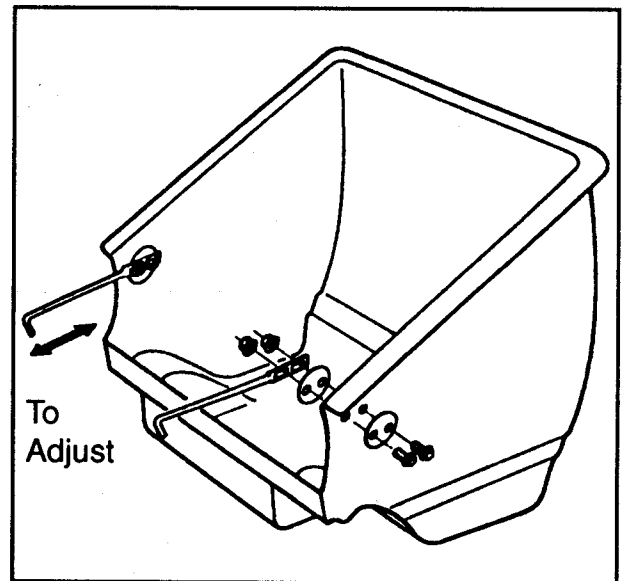

Fig. 2
1. SEE FIG. 2: Loosen catcher hook, nuts and bolts. Remove front nut and bolt from each catcher hook. Then raise catcher hooks and fasten both hooks with the bolts. Leave bolts loose until catcher is adjusted for proper clearance from the reel blades.